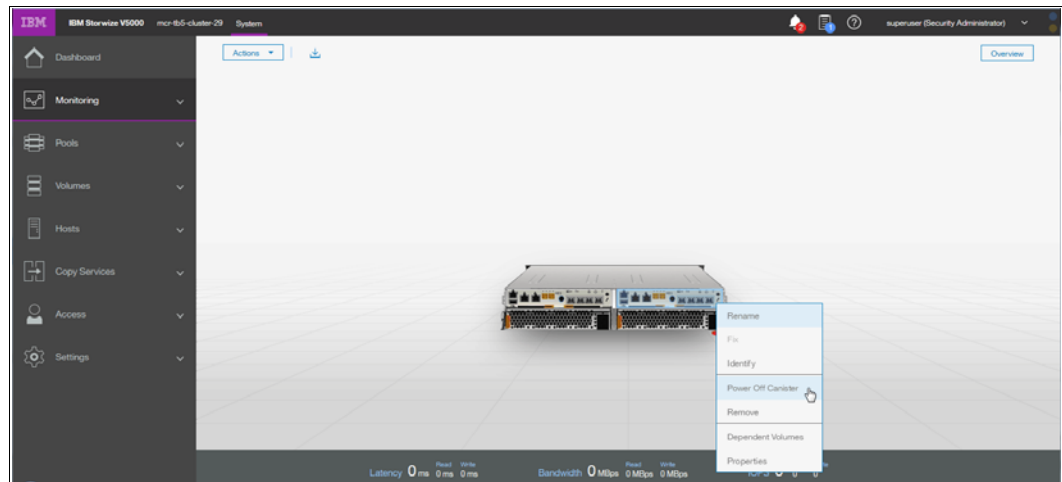

Figure 12-112 Powering off the canister
2. Right-click the required canister and select **Power Off Canister**, as shown in Figure 12-112.